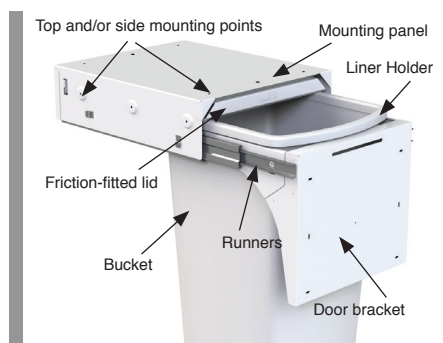

FIG 2 - Bin Parts
- Your unit has side mounting points as shown in Fig 2. If side mounting, the internal space of the cabinet must be within the advertised width.